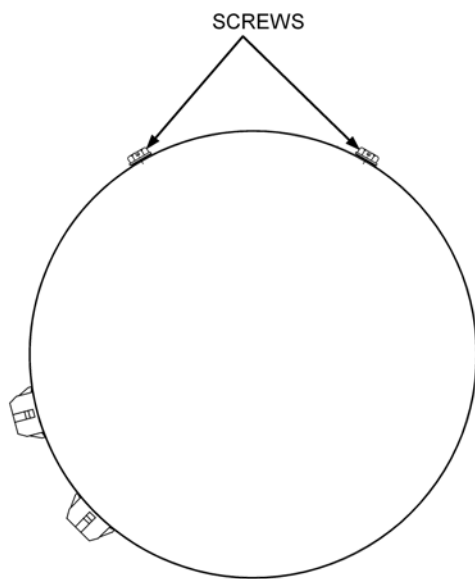

Figure 7a
2. Loosen two screws securing the motor and control unit together. Twist the control unit and pull away from motor until both units are separated. [Figure 7a].